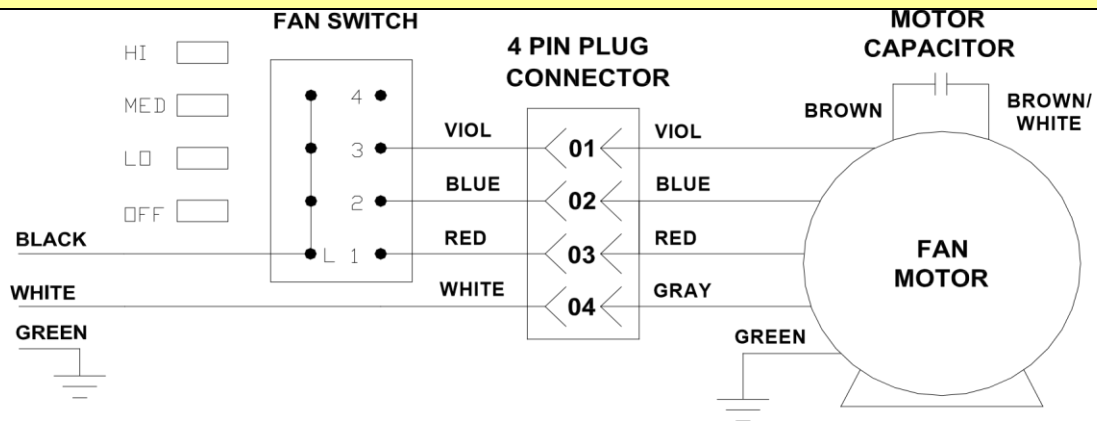

FIGURE 2
2. **Run three No. 14 gauge (or heavier) wire through conduit to the wiring compartment on the air cleaner. The green wire should be attached to the external ground. The black and the white wires are the power conductors. The connections are shown in Fig. 2.**